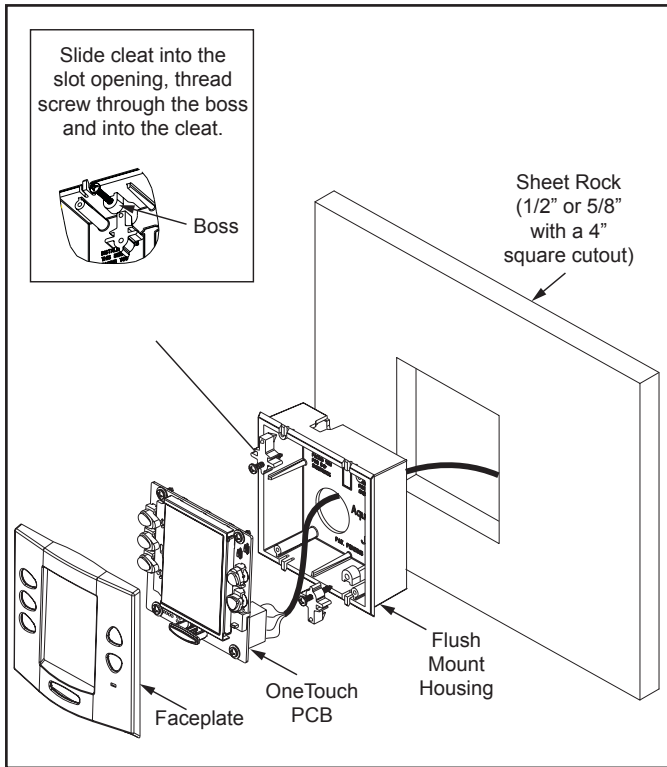

Figure 24. OneTouch Flush Mount Installation
4. Pull the 4-conductor cable through the hole in the wall and the hole in the flush mount box. Push the flush mount box into the hole in the wall with the correct orientation (see Figure 24).